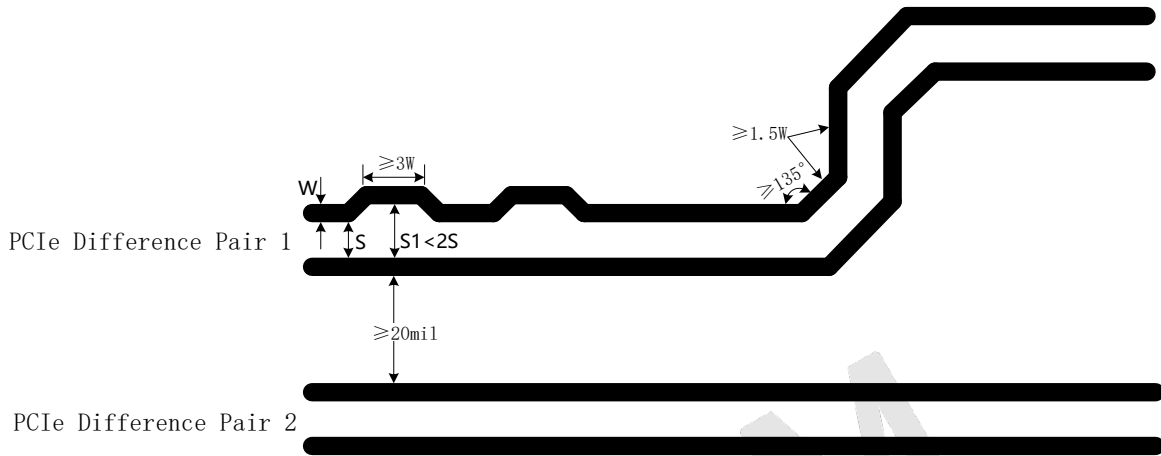

Figure 3-14 Requirement of PCIe line
- Try to avoid bended lines and avoid introducing common-mode noise in the system, which will influence the signal integrity and EMI of difference pair. As shown in Figure 3-14, the bending angle of all lines should be equal or greater than 135°, the spacing between difference pair lines should be larger than 20mil, and the line caused by bending should be greater than 1.5 times line width at least. When a serpentine line is used for length match with another line, the bended length of each segment